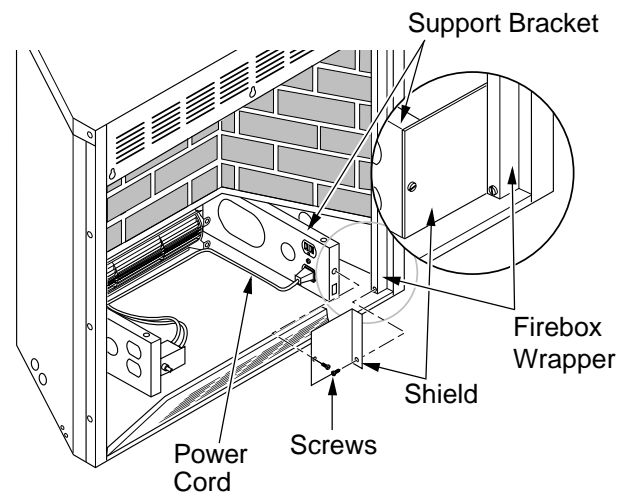

Figure 18 - Attaching Fireplace to Wall Studs (FPVF33PRA Shown)
6. Install shield to end of right support bracket and behind the firebox wrapper with 2 screws provided (see Figure 18).